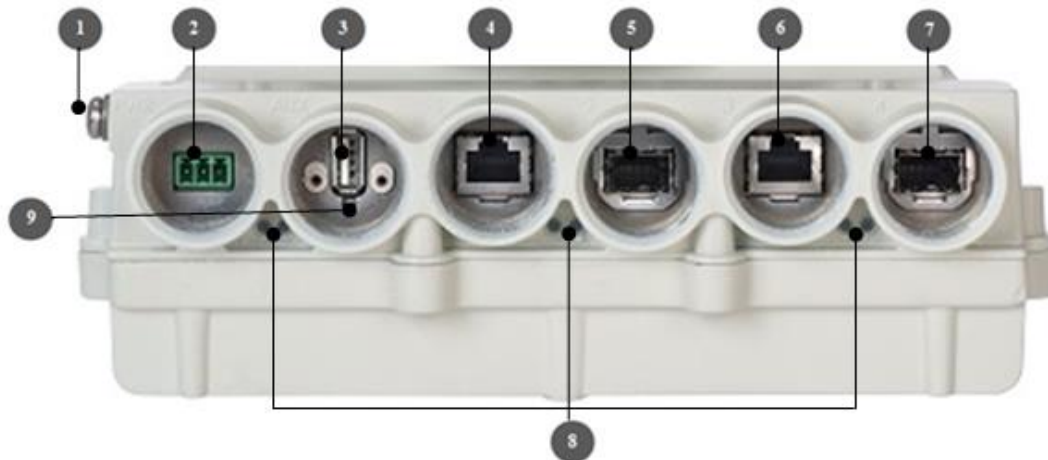

Figure 2-3: NetBeam Connection Panel Details
Figure 2-3 shows the ODU interfaces. There are two or four active Ethernet interfaces, depending on HW configuration.
The location of the electrical ground outlet on the ODU is shown in Figure 2.3.
An example for correct ODU grounding and Lightning Surge Protector installation is shown in Figure 2-3.
5. Connect the DVM to the ODU by inserting both red and black probes into their appropriate positions in the AUX port (Figure 2-3).